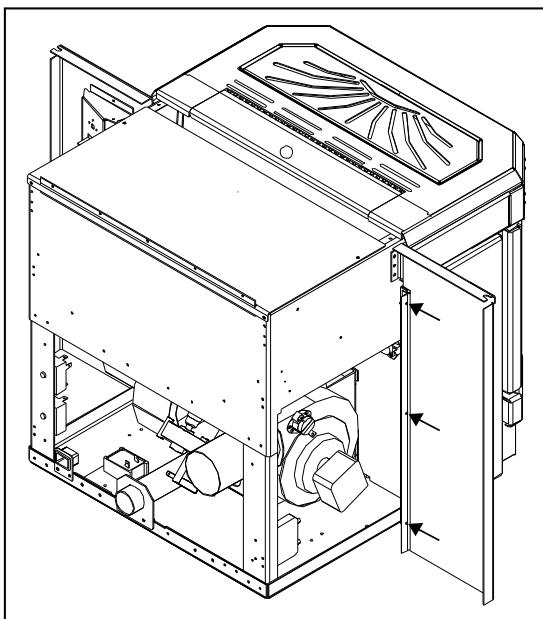

Figure 37: Panel placed on unit.
2. Using three (3) T-20 screws on each side attach the hinges on the side surround panels to the unit's side panels (refer to Figure 37).
The side panel can remain attached because they swing forward for easy access (refer to Figure 37).